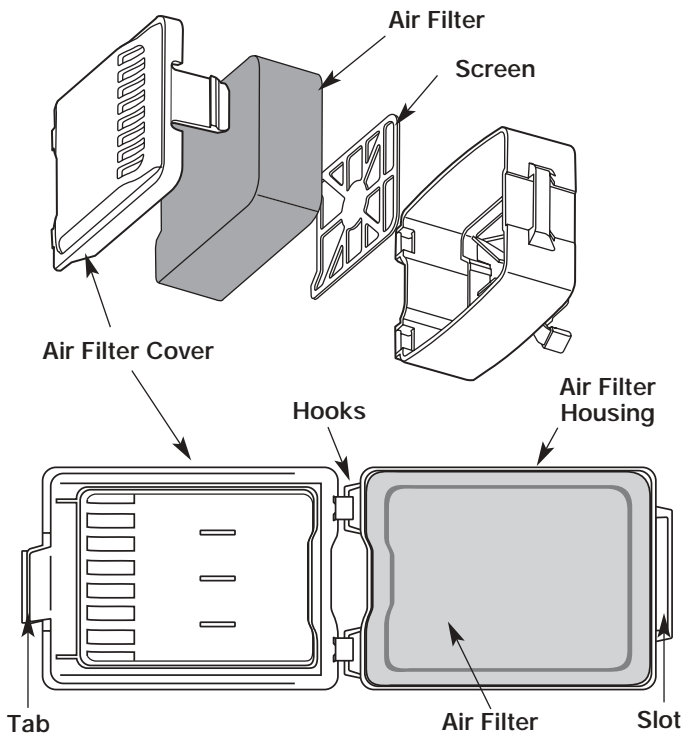

Fig. 20
1. Open the air filter cover. Push the tab on the left side of the cover in, swing the air filter cover out and off the air filter housing (Fig. 20).
2. Remove the air filter and the screen that sits behind it (Fig. 20).
6. Replace the filter and screen (Fig. 20).
8. Swing the cover to the right until the tab on the air filter cover snaps into place in the slot on the right side of the air filter housing (Fig. 20).